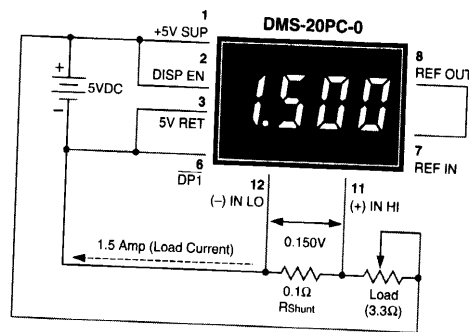

Figure 9. DC Ammeter Circuit
7. **Digital Ammeter:** Digital ammeters are finding ever-increasing usage because analog-style ammeters (moving-vane types) now cost roughly the same as their digital counterparts. Additionally, analog ammeters are not nearly as rugged as modern digital panel voltmeters. Figure 9 illustrates a typical ammeter application. The circuit uses a ±200mV input meter — the preferred range for most ammeters — to measure the voltage developed across a 0.1Ω current shunt. The circuit shown represents a basic ammeter connection diagram. A detailed application note describing digital dc ammeters is included in DATEL's new Digital Panel Meter Databook.
**6. Gain Adjust:** There is a gain-adjust potentiometer on the back of each meter. It has approximately ±50 counts (±2.5%) range of adjustment. Since these devices essentially have no zero/offset errors, a gain adjustment is effectively an overall accuracy adjustment. Though they may be performed at any point (except zero), accuracy adjustments are most effective when performed with higher level input signals. The circuit shown in Figure 9 provides ±10% range of adjustment.